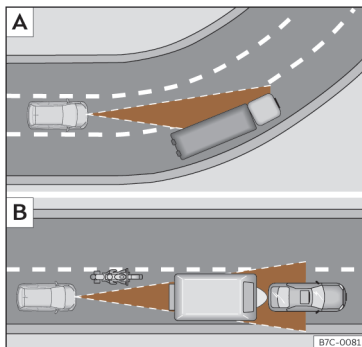

Fig. 164 **A** Vehicle on a bend. **B** Motorcyclist ahead, out of range of the radar sensor.
The ACC may not detect the vehicle in front on a curve, or may regulate the distance from vehicles in other lanes» **Fig. 164** **A**.
- Vehicles that are not aligned while driving or that are outside the sensor's detection area, such as motorcycles» **Fig. 164** **B**.